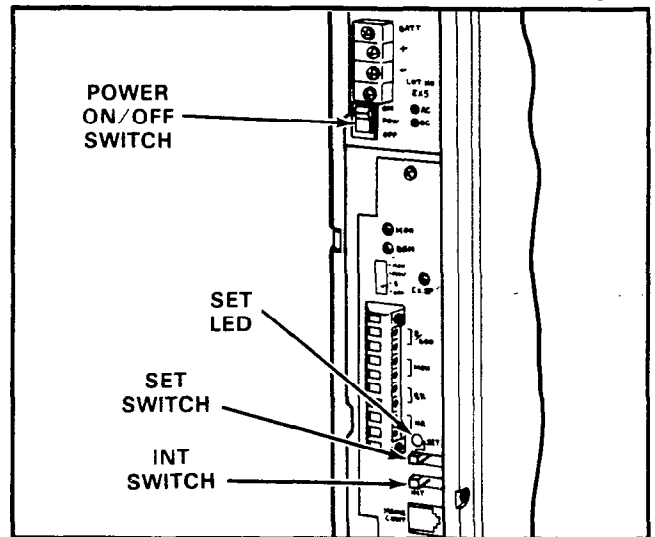

FIGURE 31—INITIALIZE SWITCH
08.03 To initialize the system data memory, refer to Figure 31 and perform the following: